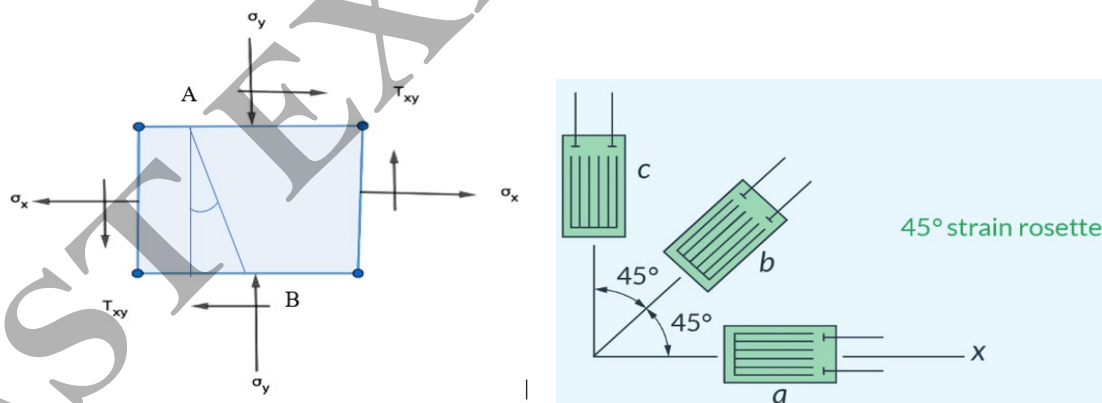

Figure 4a, b -2D Stress system and 45-degree strain rosette
Q6. A pressure vessel is made of a ductile material is subjected to a two-dimensional stress system as in Figure 4a below. The stress in x direction is 60 MPa in tension, 30 MPa compressive in y direction, and shear stress of 20 MPa in clockwise and anticlockwise direction.
- Determine, by calculation, the direct and shear stress on the plane AB which is inclined 30 degrees from the y direction, as shown in figure 4a. (5marks)